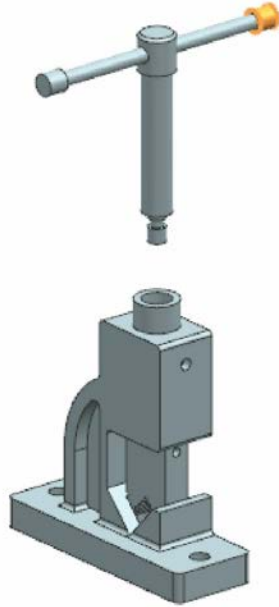

Figure 9-50 The Handle Screw selected from the assembly for explosion
2. Select the right Handle Screw from the assembly, as shown in Figure 9-50, and then select the **Move Objects** radio button from the **Edit Explosion** dialog box; a dynamic triad is displayed on the Handle Screw.